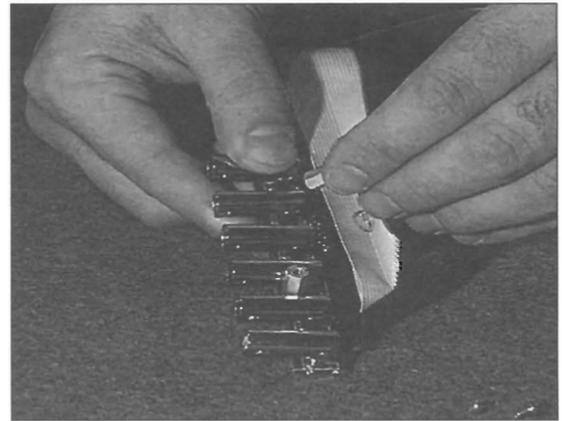

Figure 4
- 4 Remove the spacer posts from the original BNC board that came with the Toaster card. Re-attach them to the Flyer BNC board instead. See Figure 4.